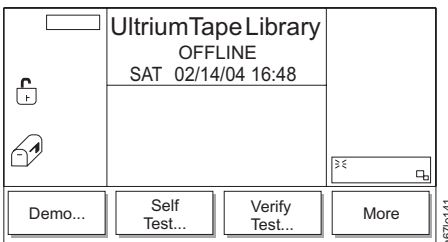

Figure 4-177. Exercise Submenu
3. Press the button below the **Exercise** softkey. The Exercise Submenu displays (see Figure 4-177).